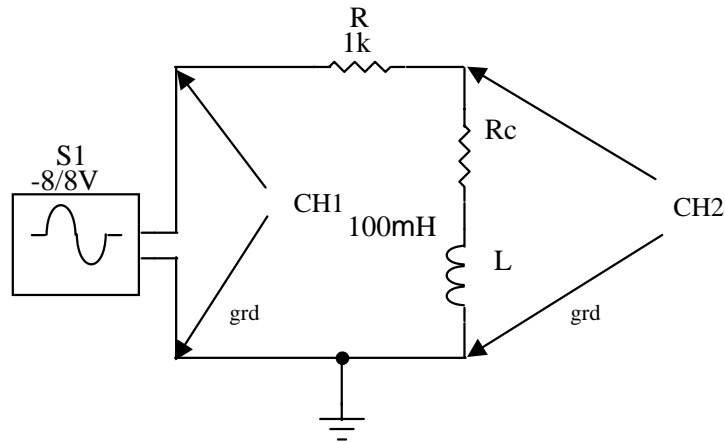

Figure 3. RL Series Impedance Test Circuit 1
- 6.) Build the circuit shown in Figure 3 using the inductance substitution box available in the lab cabinets. The resistor R_c represent the dc resistance of the inductor and is not actually connected in the circuit. Find the value of R_c by measuring the resistance of the coil with the DVM in the lab. Record this value for later use.